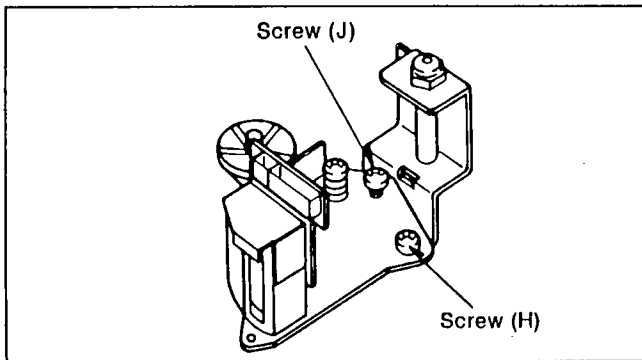
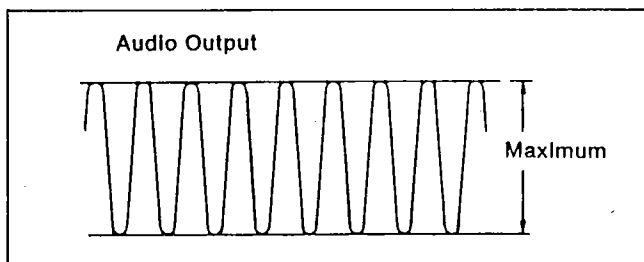

Figure M11
Figure M12
3. Adjust the screw (H)(Figure M11) so that the output level becomes maximum as shown in Figure M12.
4. Adjust the screw (H)(Figure M11) so that the output level becomes maximum as shown in Figure M12.